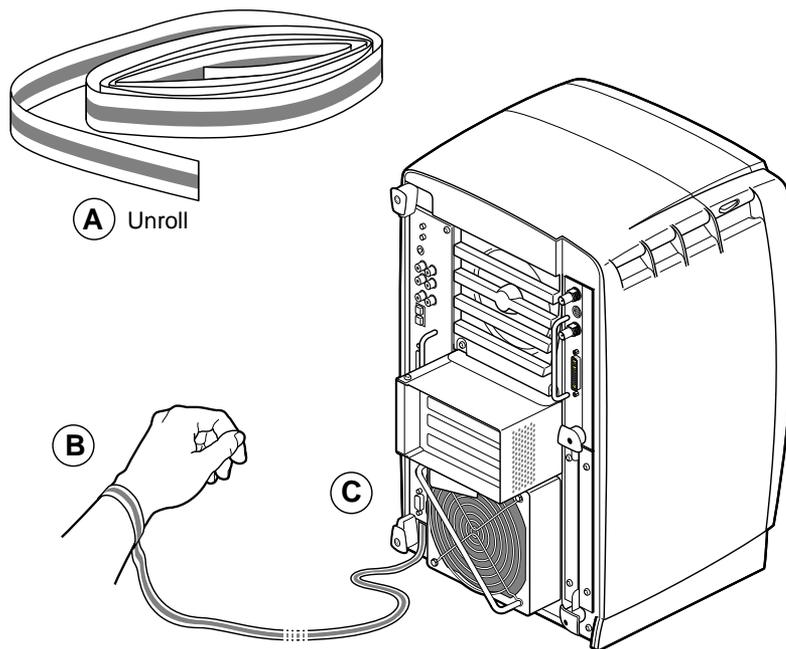

Figure 1-5 Attaching the Wrist Strap
1. Unroll the first two folds of the band (see A in Figure 1-5).
2. Wrap the exposed adhesive side firmly around your wrist, unroll the rest of the band, then peel the liner from the copper foil at the opposite end (B).
3. Attach the copper foil to any exposed electrical ground, such as a metal part of the workstation (C).